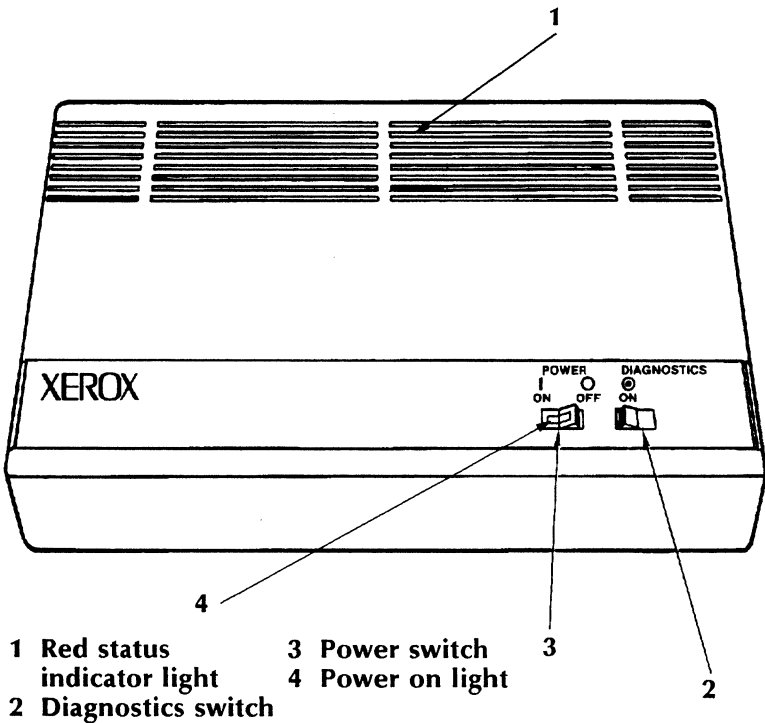

Figure 6-8 Top of 276 IC
- The 276 IC is turned on by pressing the red power ON/OFF toggle switch, (located on the top of the 276 IC), to the ON position. Figure 6-8 shows the top of the 276 IC, the diagnostics switch, the power switch, and power on indicator.